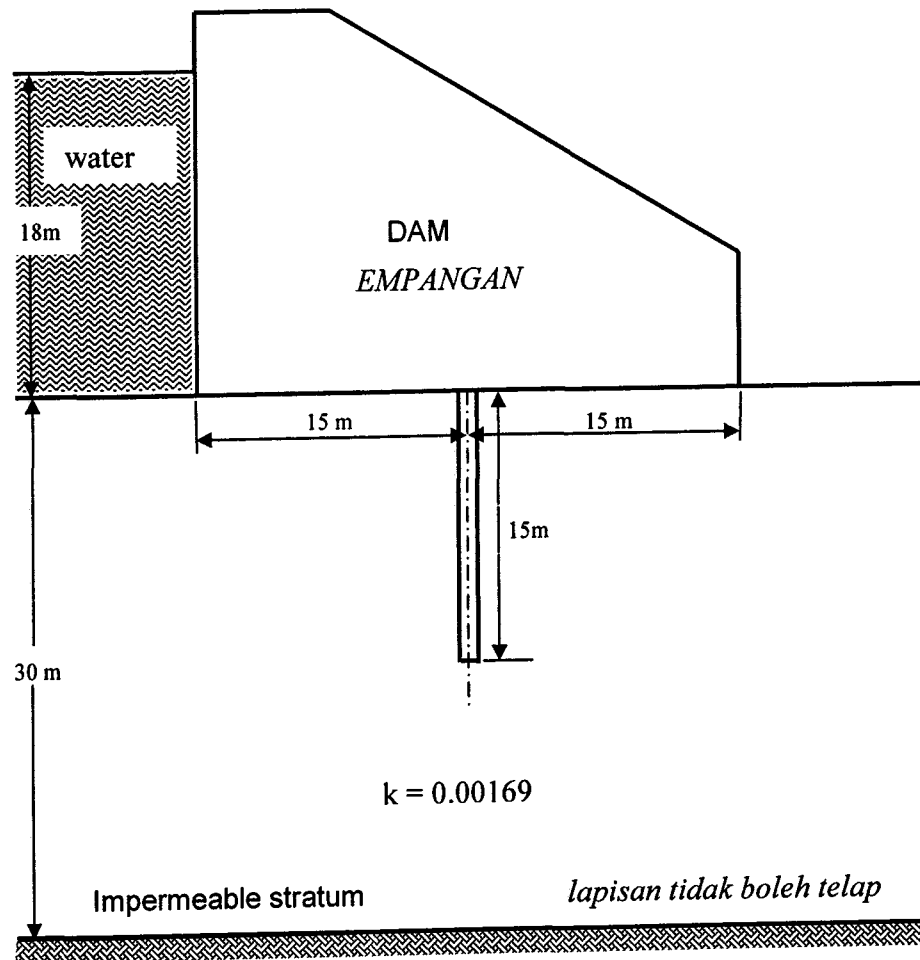

Figure 5
- [b] A dam (Figure 5) of breadth 30 m rests on the horizontal upper surface of a uniform soil deposit of depth of 30 m underlain by an impermeable stratum. It is provided with an impermeable cut-off at the mid point which extends to a depth of 15 m below the dam base. The net head of water effective in producing flow is 18 m and the coefficient of permeability of the soil is 0.00169 mm/s. Sketch the flow net and the uplift pressure and determine: